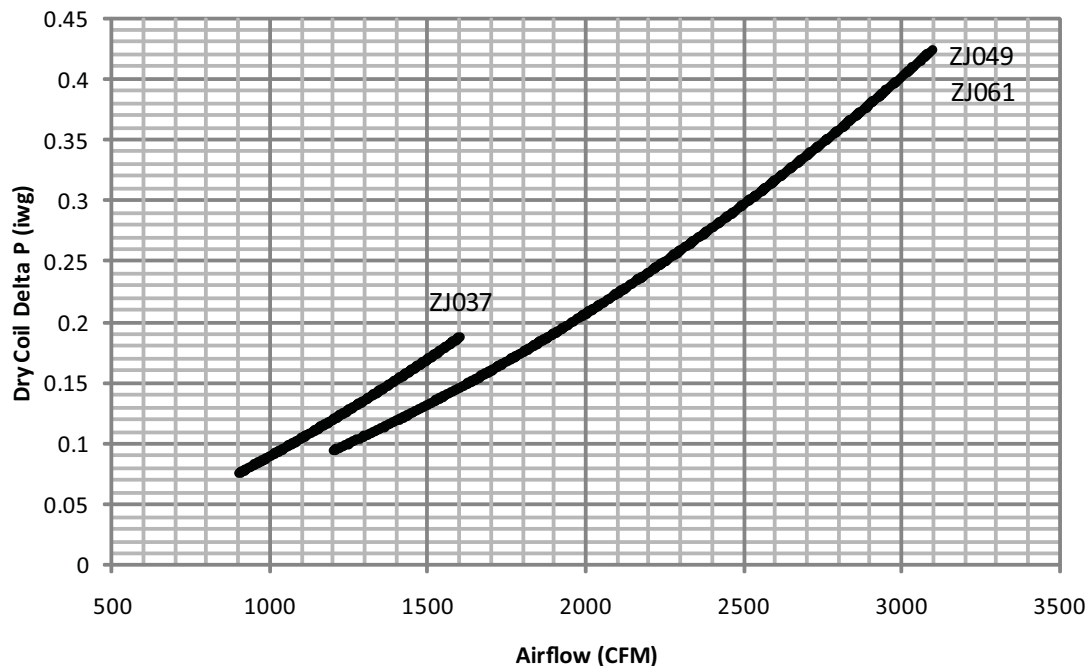

Figure 28: Dry Coil Delta P
4. The CFM through the unit can be determined from the pressure drop indicated by the manometer by referring to Figure 28. In order to obtain an accurate measurement, be certain that the air filters are clean.